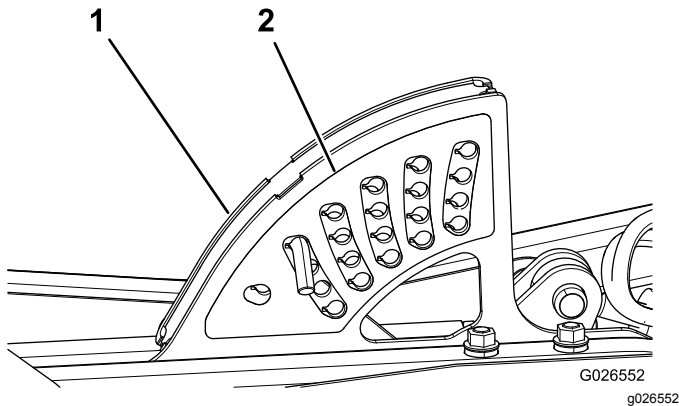

Figure 5
1. Remove the existing height-of-cut decal from the height-of-cut bracket on the machine (Figure 5).